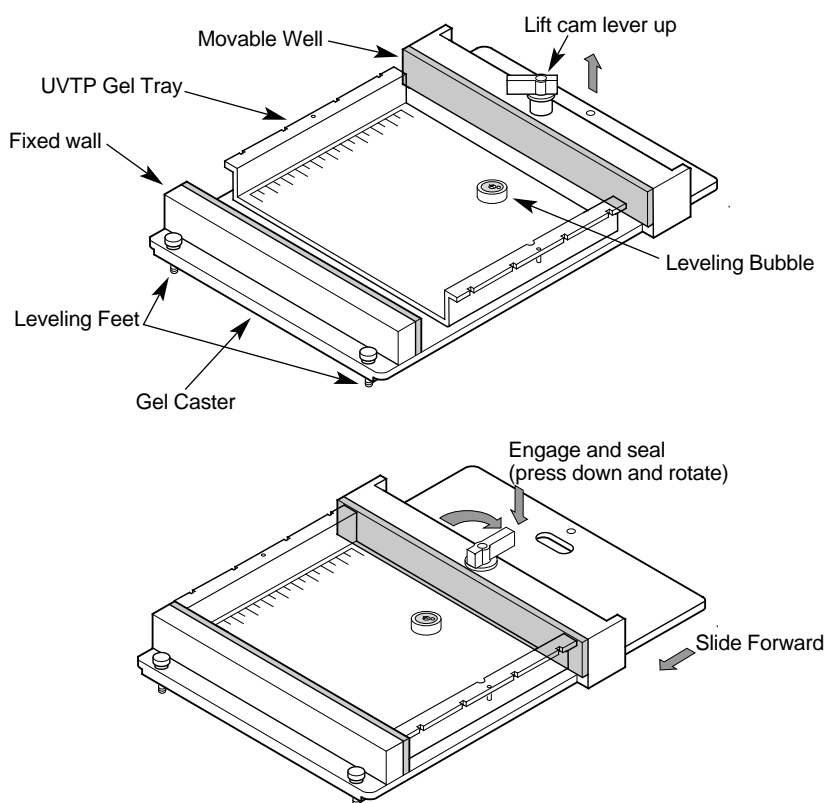

Figure 2.1 Sealing the UVTP tray for gel casting.
4. Slide the movable wall against the edge of the UVTP tray (Figure 2.1).